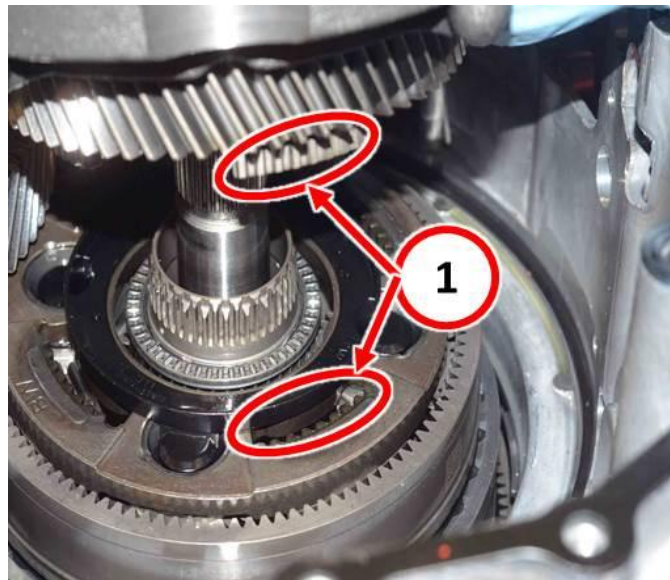
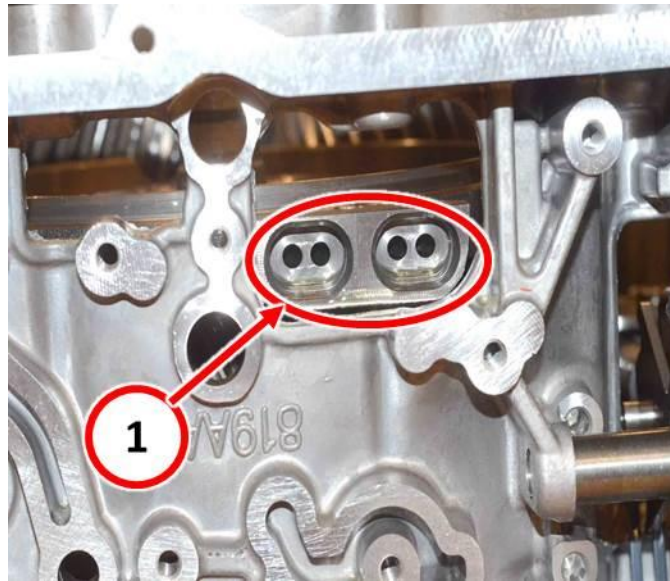

Fig. 17 OPSA To Carrier Installation
Fig. 18 OPSA Fluid Adapter Tube Orifice Orientation
49. Separate the OPSA from the E-Clutch and bell housing and install onto the Planetary Pinion Carrier assembly making sure the lower gear teeth are properly meshed with the pinion carrier and transfer tube orifices are properly aligned. See (Fig. 17) and (Fig. 18).